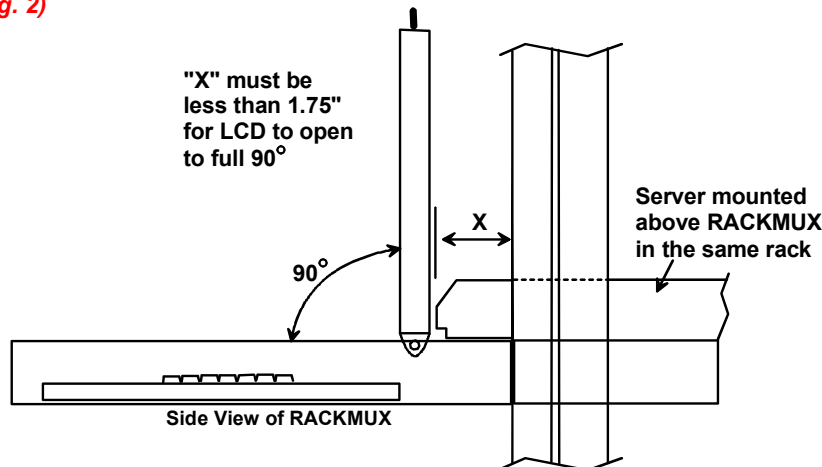

Figure 2- Position RACKMUX with clearance to open
**Note:** To provide sufficient room for the LCD monitor to be opened to a proper viewing angle (a minimum 90 degree position from the keyboard), ensure that all devices mounted above the RACKMUX extend no more than 1.75" from the rack frame. (See Fig. 2)
If the Telco 2-post mounting bracket kit (NTI# RL-T15-TEL) is to be used, secure the short and long brackets to each side of the drawer as shown in Fig. 2. Apply 2 nuts (supplied) per bracket to secure the brackets to the drawer. Apply two #10-32x3/4" screws (supplied) per bracket to the post at the desired height. Slots are provided in the brackets to make minor depth adjustments easy. Be sure to properly tighten all nuts and screws before using the drawer.